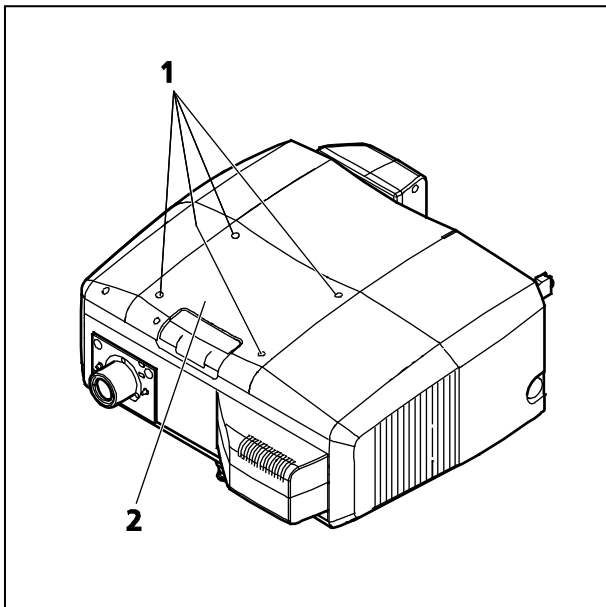

Fig. 31 Removing the cover
- Loosen the four fastening screws (Fig. 31/1).
- Remove the cover (Fig. 31/2) of the scanning module.